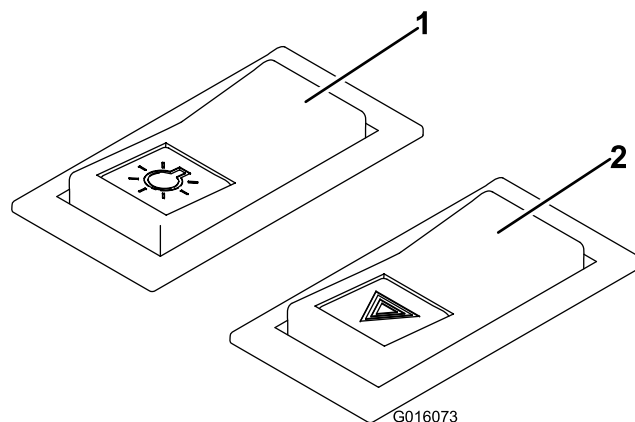

Figure 20
- The **hazard warning switch** operates the hazard warning lights and will work whether the ignition is switched to ON or OFF (Figure 20).
- The **master light switch** operates the front, rear, and headlamps. It works only if the ignition is switched to ON (Figure 20).